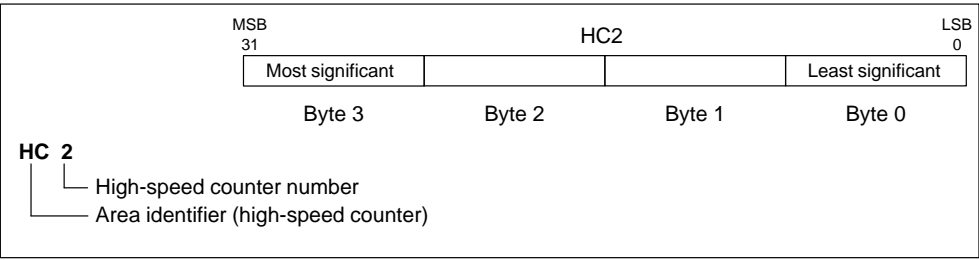

Figure 10-15 Accessing the High-Speed Counter Current Values
To access the count value for the high-speed counter, you specify the address of the high-speed counter, using the memory type (HC) and the counter number (such as HC0). The current value of the high-speed counter is a read-only value and can be addressed only as a double word (32 bits), as shown in Figure 10-15.